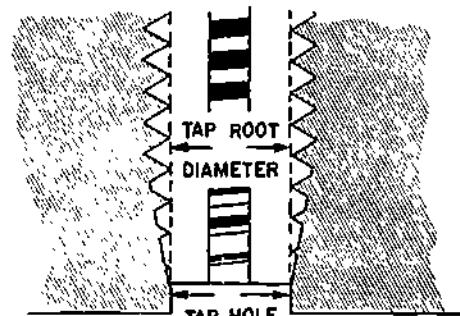

Figure 17-35. Under-Sized Drilled Hole for Tapping
c) If the tap drill is under-sized the tap hole will also be under-sized and there will be no clearance; the tap will be hard to turn, will tear the threads, and will probably break. (See Figure 17-35.)